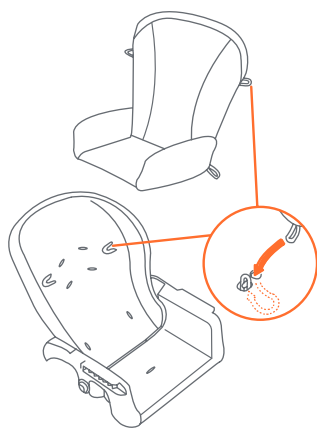

Fig. 7a
- 7) • Loop the flap on the back of the pad over the top of the Seat Back. Connect the Seat Pad to the Seat Back with the two Elastic Loops. These fit over the Attachment Tabs located near the top harness slots (Fig. 7a).